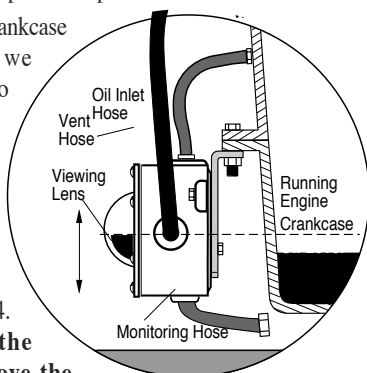

Figure 4
2. Attach the 1 inch (25 mm) diameter, flexible monitoring hose to the crankcase and the monitoring port on the LM300. See Figure 4. **CAUTION:** The hose must slope slightly downward from the LM300 and **MUST NOT** have any droop or low spots.
3. Install the 1/2 inch (13 mm) I.D. x 3 ft. (914 mm) hose to the vent connection on the LM300 to the vent connection on the crankcase. See Figure 4.
4. Fill the crankcase to the proper oil levels. With the engine running and warm, loosen the mounting bracket adjustment bolts and adjust the LM300 so that the oil level in the sight gauge is aligned with the white “index line” on the dial (Figure 4). Tighten the adjustment bolts securely.